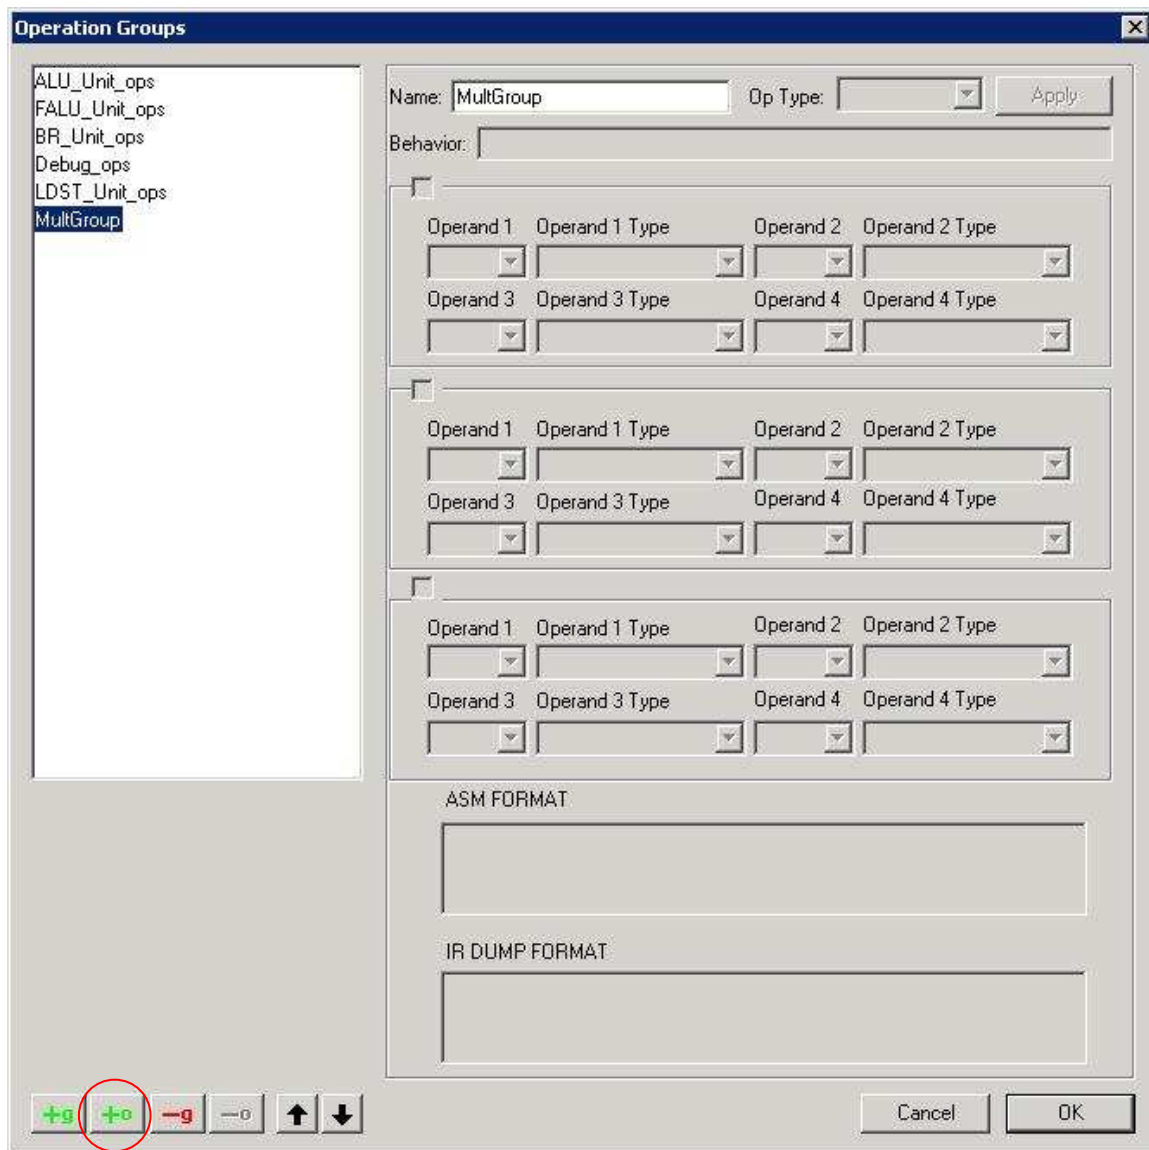
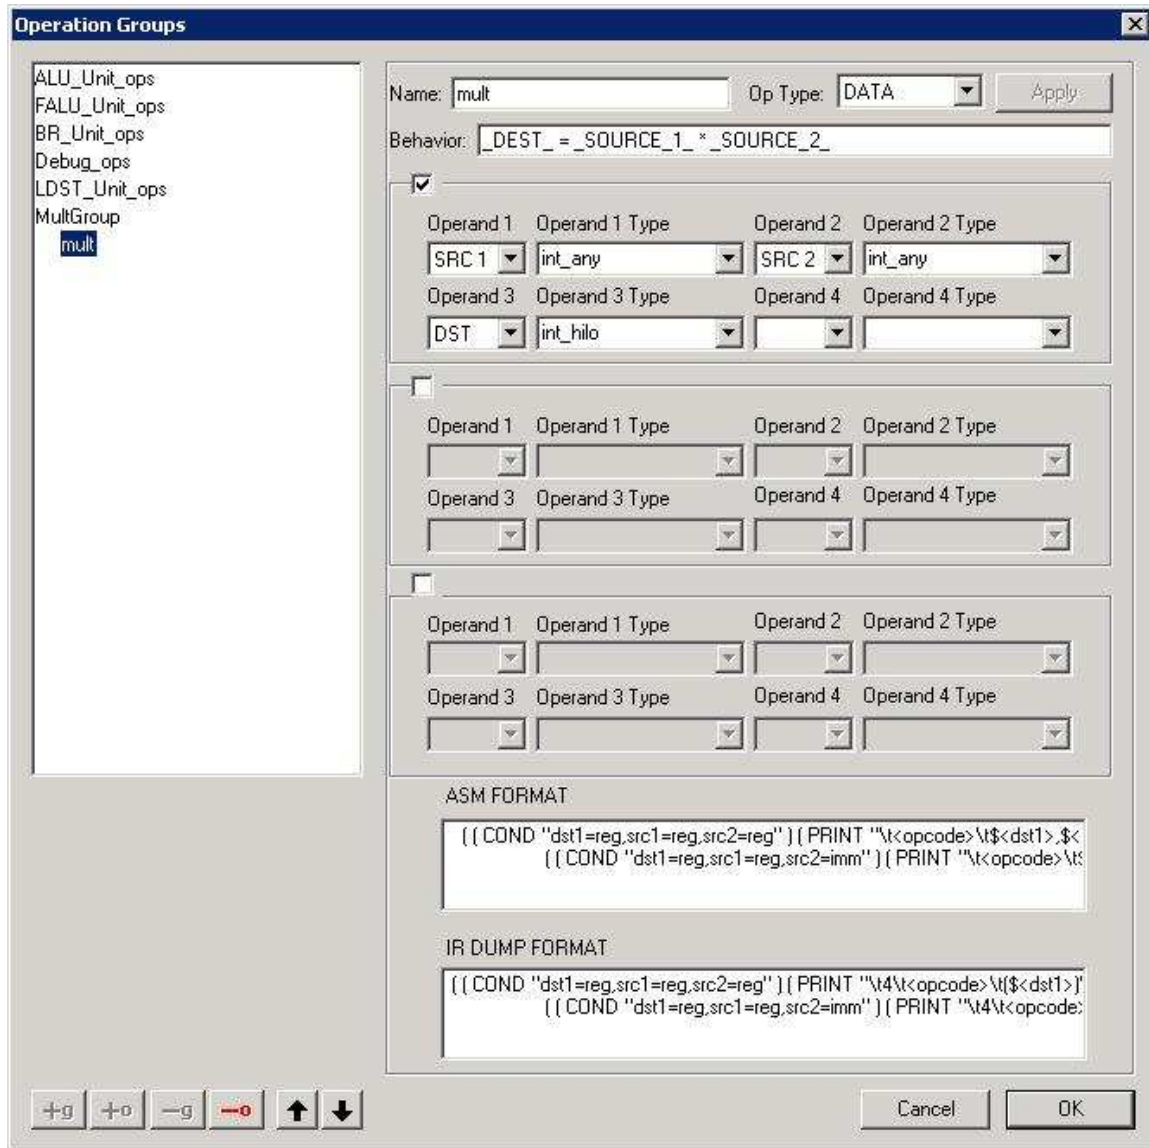

Figure 38: Adding MultGroup
Figure 39: Add 'mult' operation
- (3) Click 'OK' to save and close the current window.
(4) Select “set OP\_GROUPS” again. Select “MultGroup” from the list of op\_groups.
(5) Click ‘+o’ (as shown in Fig. 38) and add ‘mult’ operation with the attributes shown in Fig. 39. Set the ASM FORMAT as: